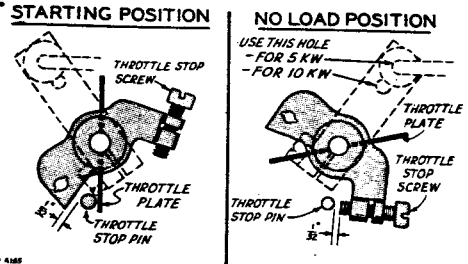

Fig. 18 Throttle Lever and Stop Pin
1. With the plant stopped, check the clearance of the carburetor throttle stop lever. The clearance between the lever and stop pin should be approximately 1/32", Fig. 18. This clearance can be adjusted by loosening the linkage ball joint and turning the ball joint on the linkage threads as necessary to lengthen or shorten the over-all length of the linkage. Be sure that the lever to which the link connects is securely